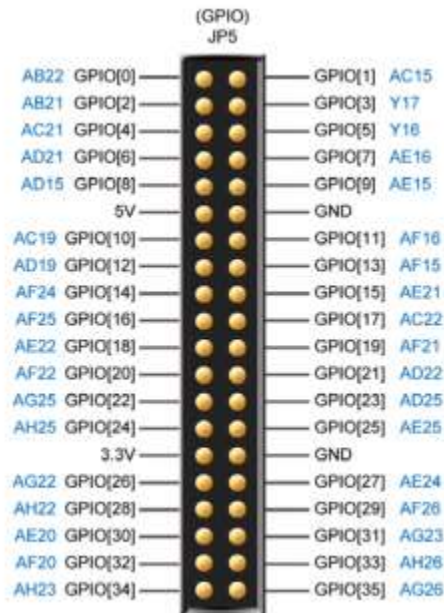

Figure 2: GPIO 40-pin assignments
- II-2. *Manual control* - by deriving CCLK from a push-button and displaying the flip-flops' outputs on LEDs as shown below (block diagram of Figure 2).